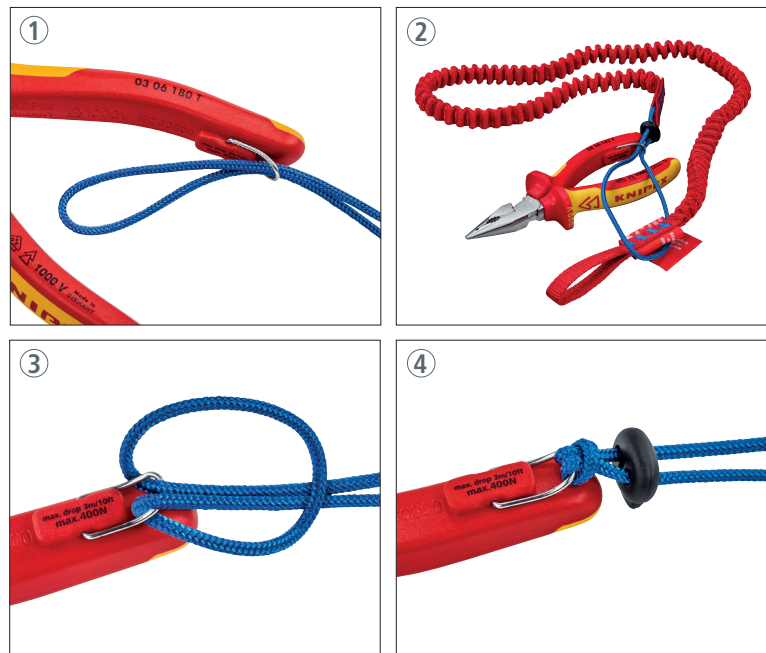

Figure 6: Connection via loop
- KNIPEX Tools with a tethering point should only be connected by loop (Figure 6).
Attach the other end of the Lanyard to an anchor point that is suitable and reliable for tool tethering either by loop or by a carabiner (see Chapter 4.1.1, figure 6 and 4.1.2).